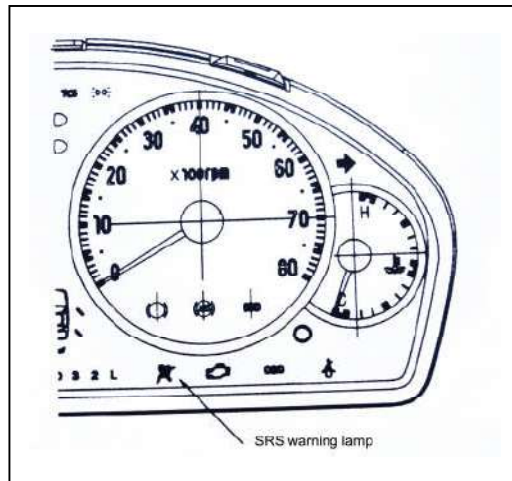

Fig 19-29
- ②Turn the ignition switch to "ON".
- ③Does the SRS warning lamp illuminate for about 6-8 seconds and then go out for 5 seconds or more?(See fig 19-29)